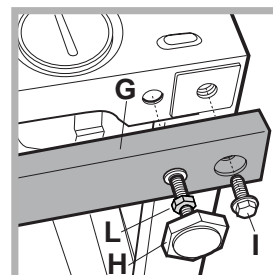

Fig. 11
the two crossbars (G); the 4 feet (H); the 4 screws (I); the 4 nuts (L) then perform the following operations (*fig. 11*): remove the 4 original feet, place a crossbar G at the front of the appliance, fastening it in place using screws I (screwing them in where the original feet were) then insert the new feet H. Repeat the same operation at the back of the appliance. Now adjust feet H to raise or lower the appliance from 835 mm to 870 mm.